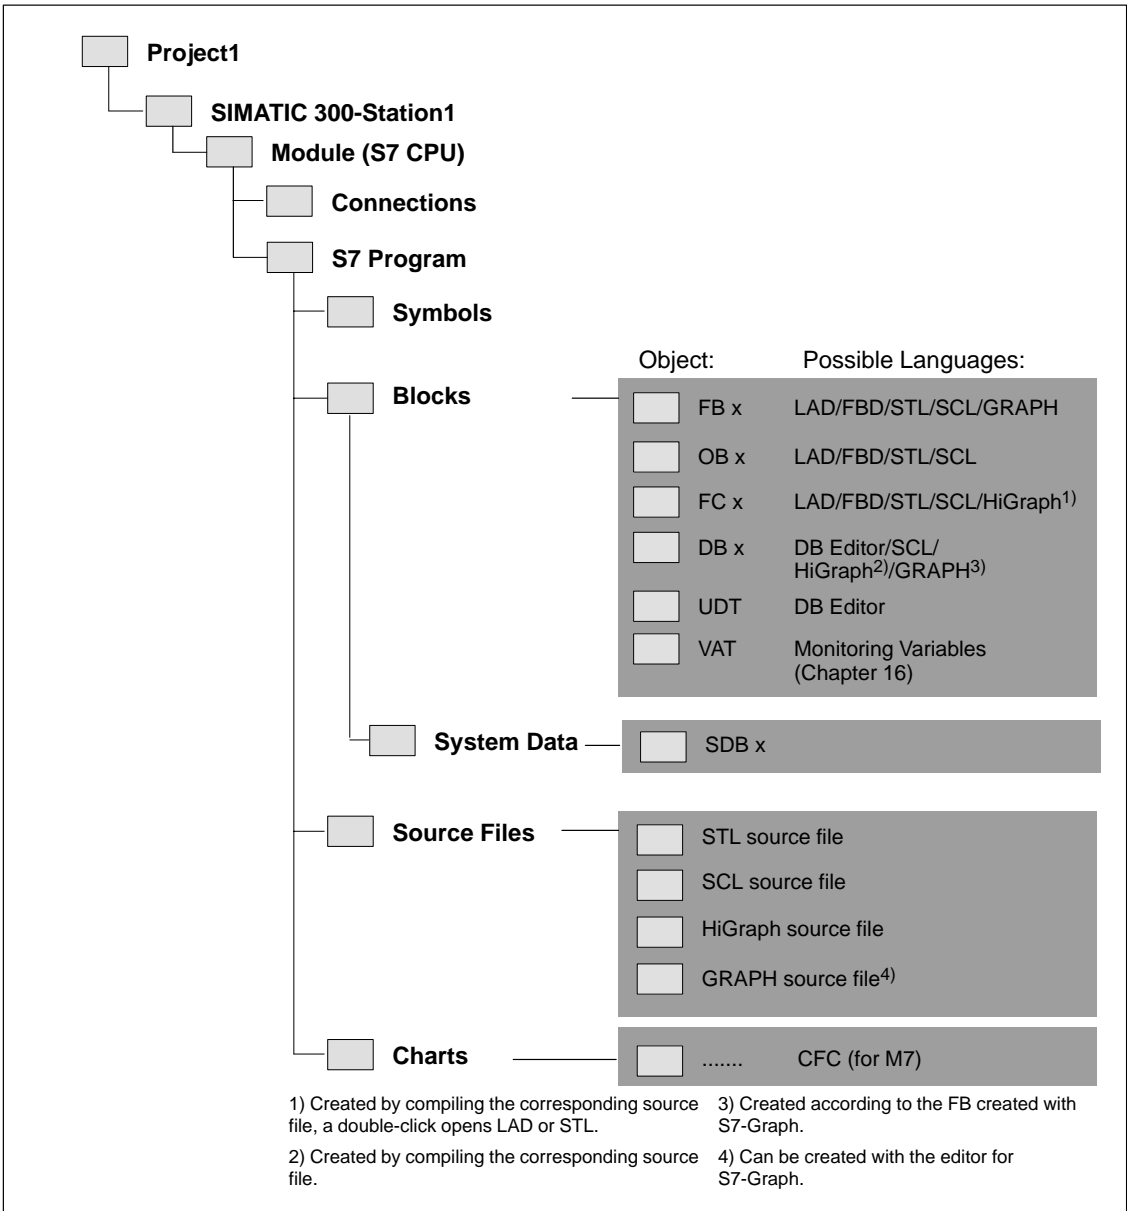

Figure 11-1 S7 Program in the Project Structure with Relevant Language Editors
- You edit the S7 program **linked to a module** (see Figure 11-1). In this case you must have at least one SIMATIC 300 (or 400) station available in the project which should be configured so that it contains at least one programmable module (S7 CPU). The S7 program is then inserted in the project automatically when you insert the CPU.
Figure 11-1 shows which language editors you use to create which objects in a program.